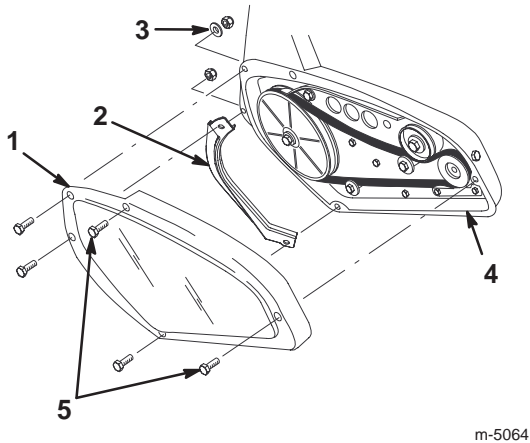

Figure 20
- Remove the 2 self-tapping screws, 3 cap screws, one washer, and 3 locknuts that secure the drive belt cover to the snowthrower frame (Fig. 20). Set the drive belt cover aside.
- Remove the left rotor guard (Fig. 20) and save it for installation in step 10.